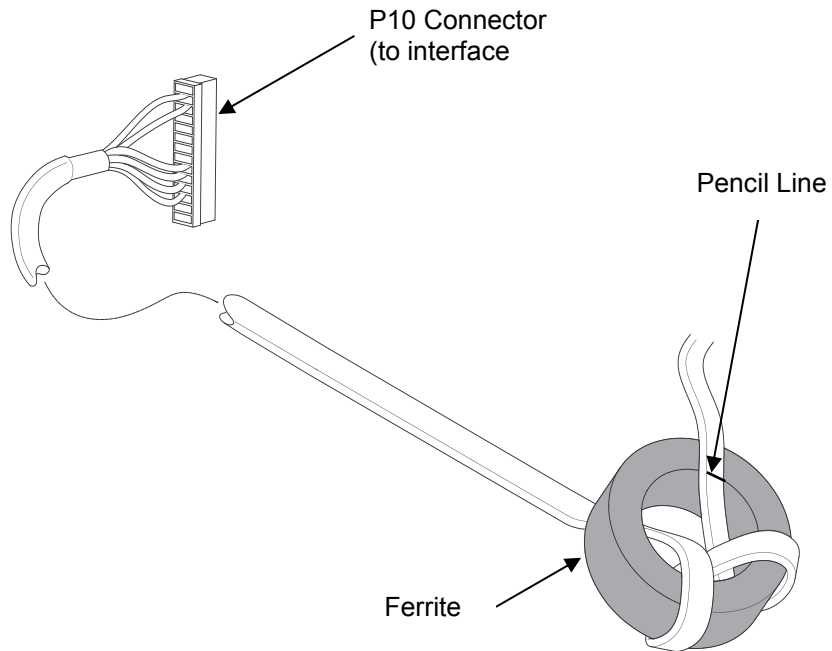

Figure 12 Wrapping the Power/Data Cable Around the Ferrite (T8)
8. Using the P10 connector end of the power/data cable, insert the cable through the ferrite (Figure 12).